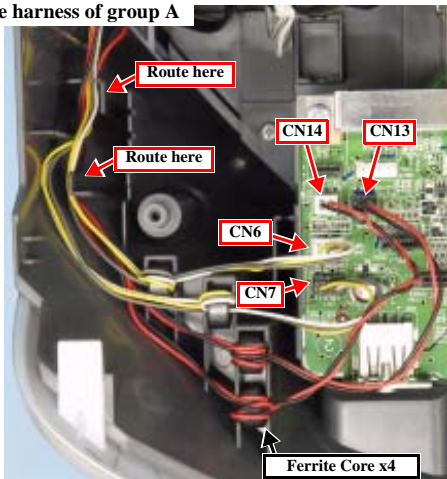

Figure 4-17. Routing the Harness and Setting the Ferrite Cores
4. Place the ferrite cores of group A as shown, and connect the connectors to the Main Board. (Fig. 4-17)